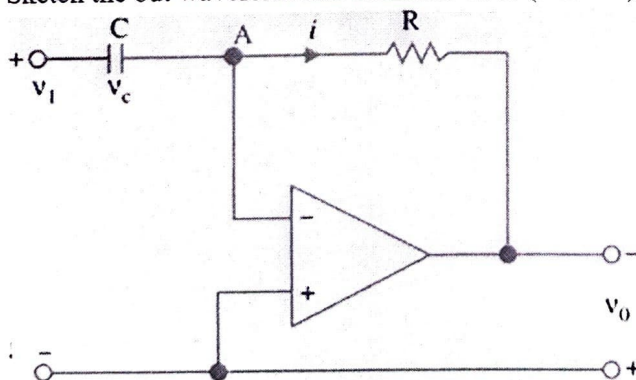

Fig 2
07. Operational amplifiers (op-amps) fabricated using thin film technology is being used as a differentiator where the input to the differentiator circuit of Fig 2 is a sinusoidal voltage of peak value of 7 mV and frequency 2 kHz.